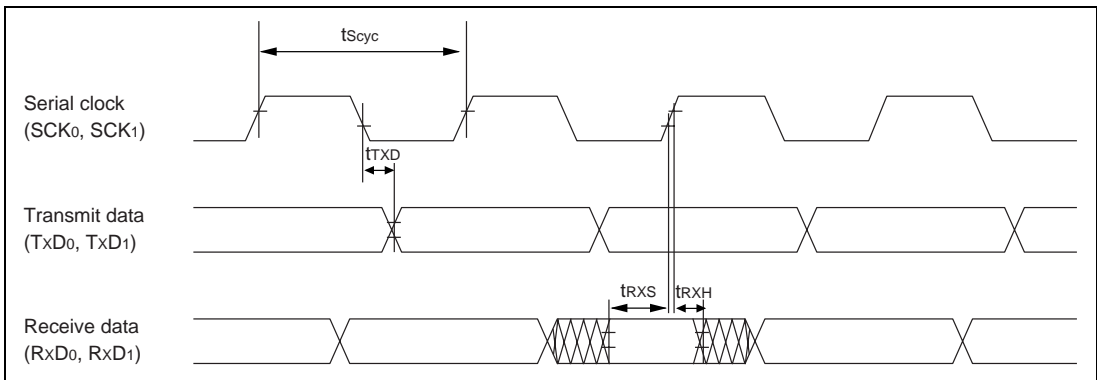

Figure 16.16 SCI Input/Output Timing (Synchronous mode)
16.3.6 SCI Timing	Figures 16.16 to 16.17